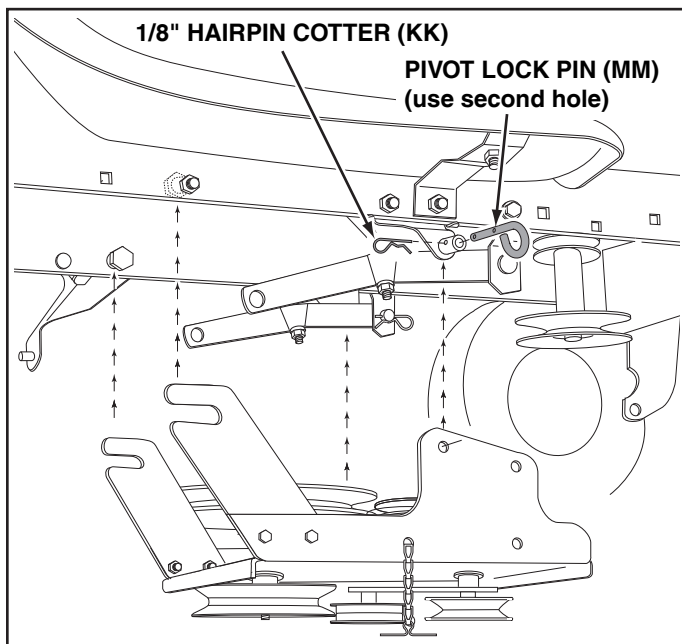

FIGURE 45
STEP 46: (SEE FIGURE 45)
- Attach the clutch/idler assembly to the tractor frame as follows. Hook the assembly's notched arms onto the two shoulder bolts you assembled to the inside of the tractor frame. Lift the front of the assembly and attach it to the R.H. and L.H. hanger brackets using two pivot lock pins (MM) and 1/8" hairpin cotters (KK).
NOTE; To prevent the chain from dragging on the ground, loop the end of the chain through the pivot lock pin. Refer to figure 45 on page 20.